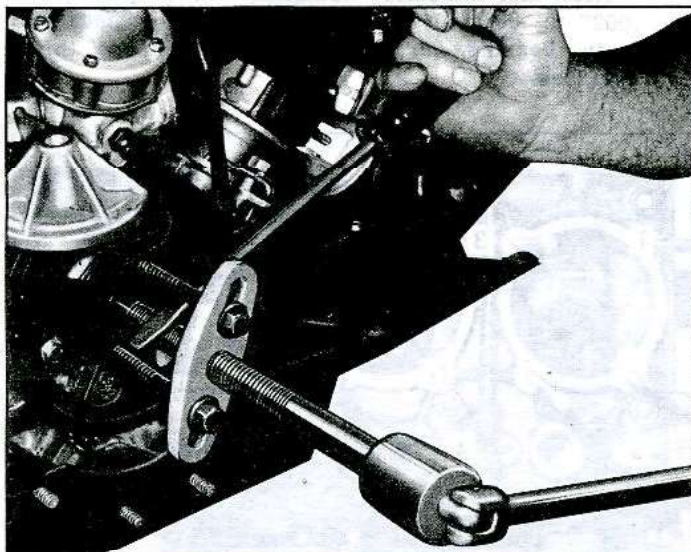

Fig. 53—Removing Harmonic Balancer
17. Remove crankshaft bolt and washer, then remove crankshaft pulley and hub or harmonic balancer with Tool J-8215 (fig. 53).